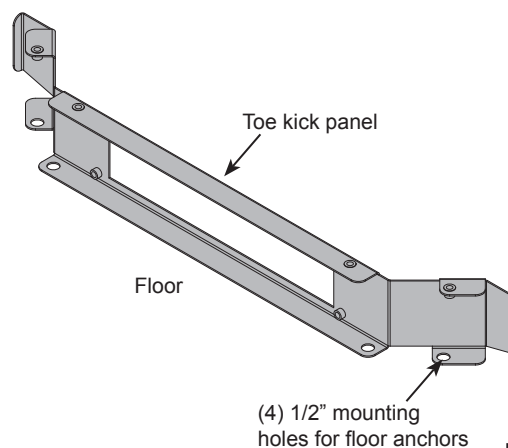

Figure 9.1
1. Position the toe kick panel on the floor in the preferred final lectern location. **Figure 9.1.**
2. Mark the (4) mounting hole locations onto the floor.